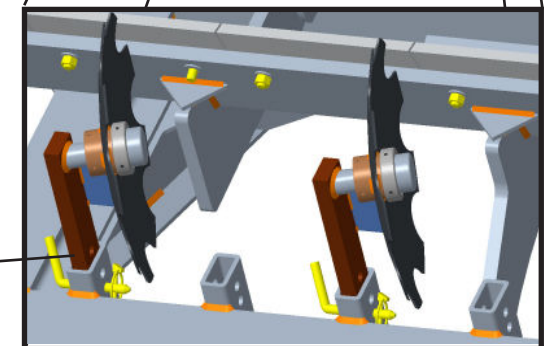

Fig 8
2. Slide Left Discs (10-90490) into every other pocket on left side of unit and Right Discs (10-90491) into every other pocket on right side of unit (see Fig 7 and Fig 8).
- Recommend pinning hole in disc shank farthest from disc into 2nd hole from the bottom of the pocket (see Fig 8).
- Disc shanks must be slid into the pocket with the shanks toward the inside of the unit and the discs facing outwards so the discs will push the soil outward (see Fig 8).